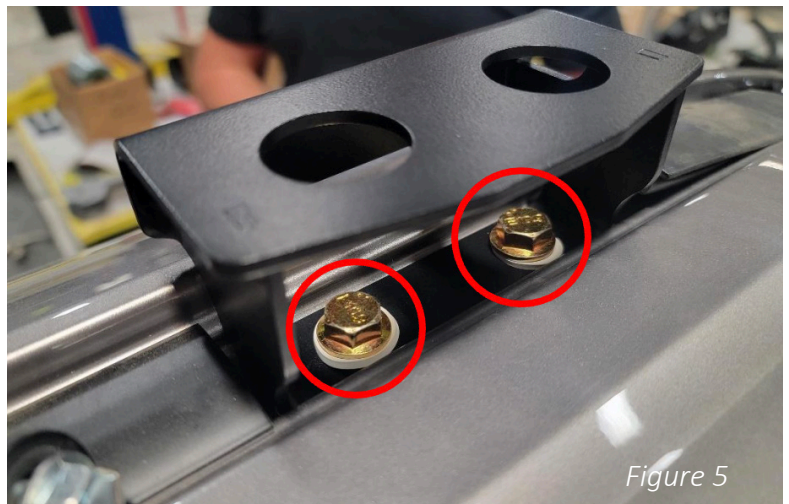

Figure 5
5. Install the 4x provided 23429 mounting brackets in the front and rear OE mounting locations. Use 2x of the provided M8 flange bolts with 2x rubber sealing washers to fasten them in place. Place a small amount of the provided 242 Loctite on each bolt before installation. Figure 5.